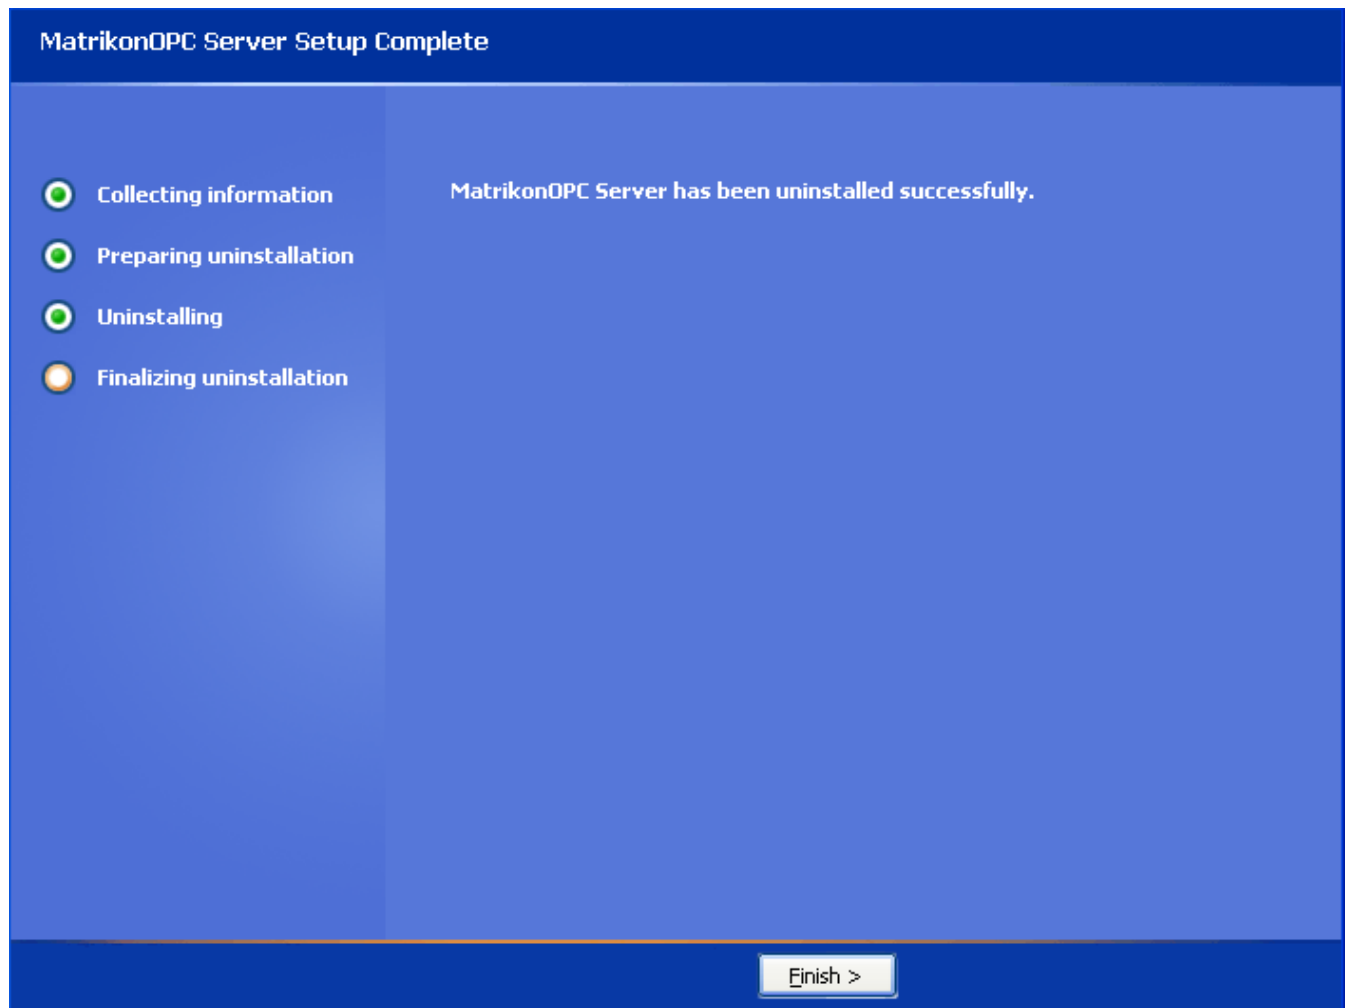

Figure 73 - MatrikonOPC Server for Triconex Setup Complete Screen
11. When the un-install has finished, the **MatrikonOPC Server for Triconex Setup Complete** screen (Figure 73) appears stating that MatrikonOPC Server for Triconex was successfully un-installed.